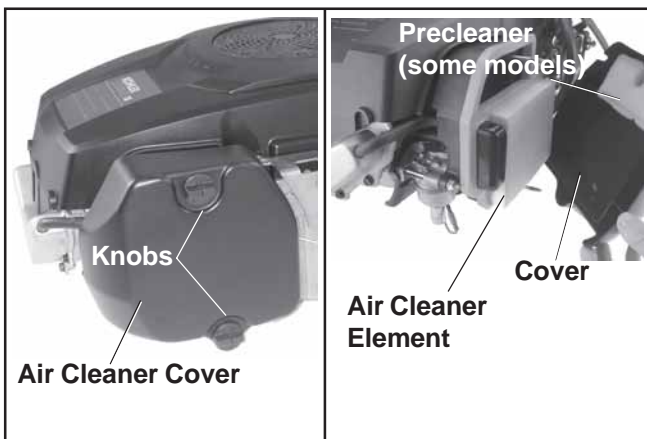

Figure 9. Air Cleaner Assembly - Details.
This engine is equipped with a replaceable, high density paper air cleaner element. Some engines are also equipped with an oiled, foam precleaner, located in the outer air cleaner cover. See Figure 9.
1. Loosen the air cleaner cover knobs and remove the cover. See Figure 9.
1. Remove the air cleaner cover and the precleaner (if so equipped), service as required. See Figure 9.
6. Reinstall the precleaner (if so equipped), into the upper section of the air cleaner cover. Make sure the hole in precleaner is aligned with the upper mounting knob. See Figure 9.
7. Reinstall the air cleaner cover and secure with the two knobs. See Figure 9.